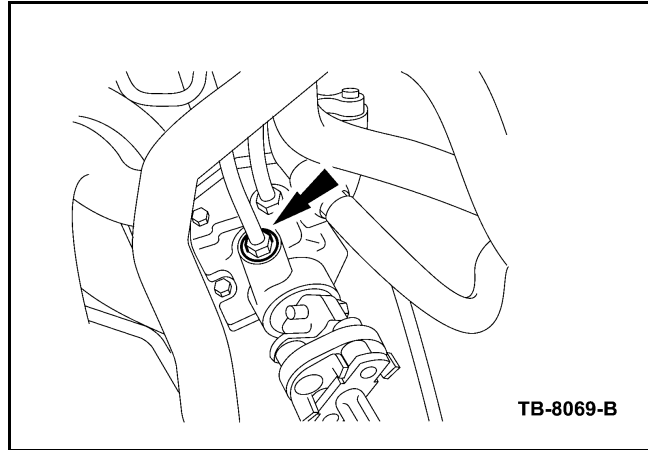

Figure 4 - Article 04-23-8
3. Disconnect the line from steering gear (Figure 4).